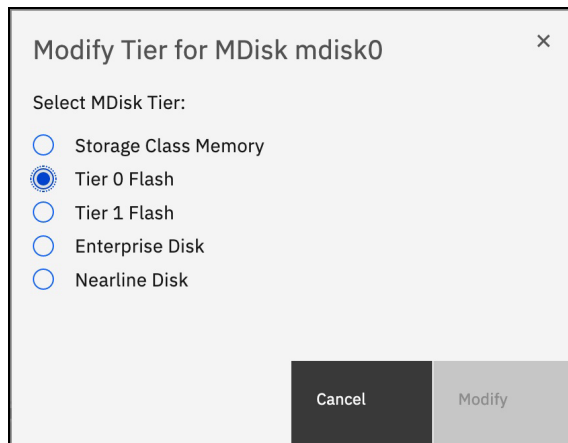

Figure 4-28 Select wanted MDisk tier
3. The new window opens with options to change the tier (see Figure 4-28).